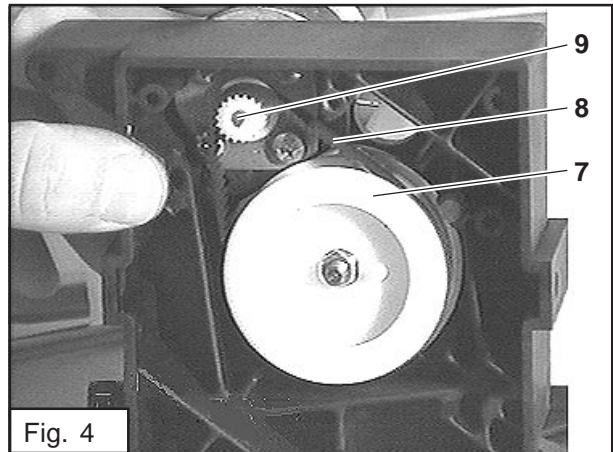

Fig. 4
- Now, the large gear wheel (7) with toothed belt (8) and the small gear wheel (9) can be removed consecutively. (Fig. 4)